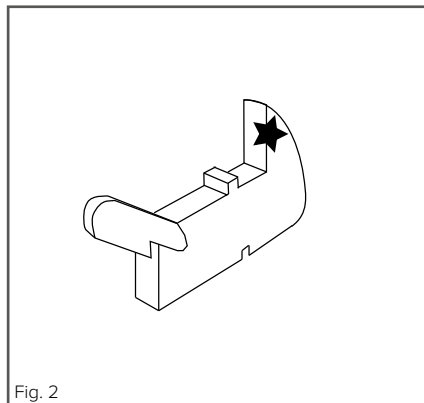

Fig. 2
- Hold the door to the appliance in the closed position and manoeuvre the hinges so that the part of the hinge, highlighted by the star in fig. 2, inserts into the hinge slot in the cavity frame.